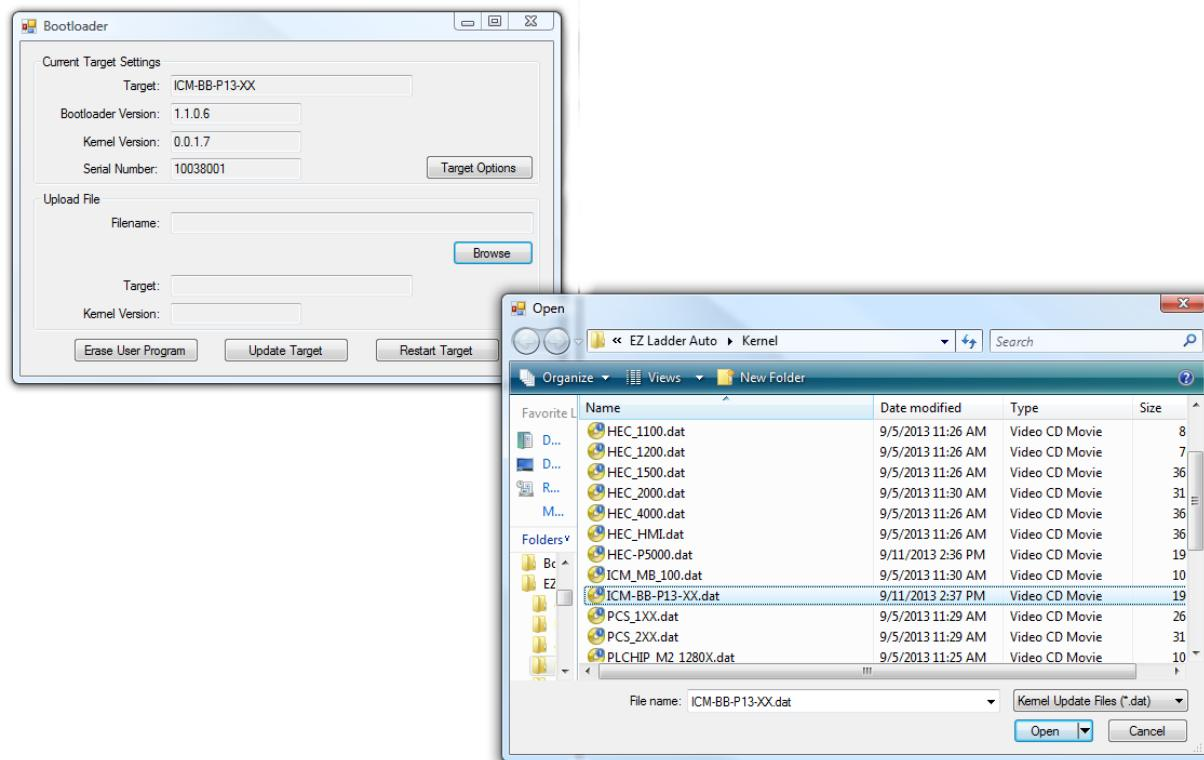

Figure 1-3 - Browse to Kernel
7. Click the **BROWSE** button and select the target's kernel (by partnumber) located by default at C:\Program Files\EZ Ladder\Kernel\}. Refer to Figure 1-3.